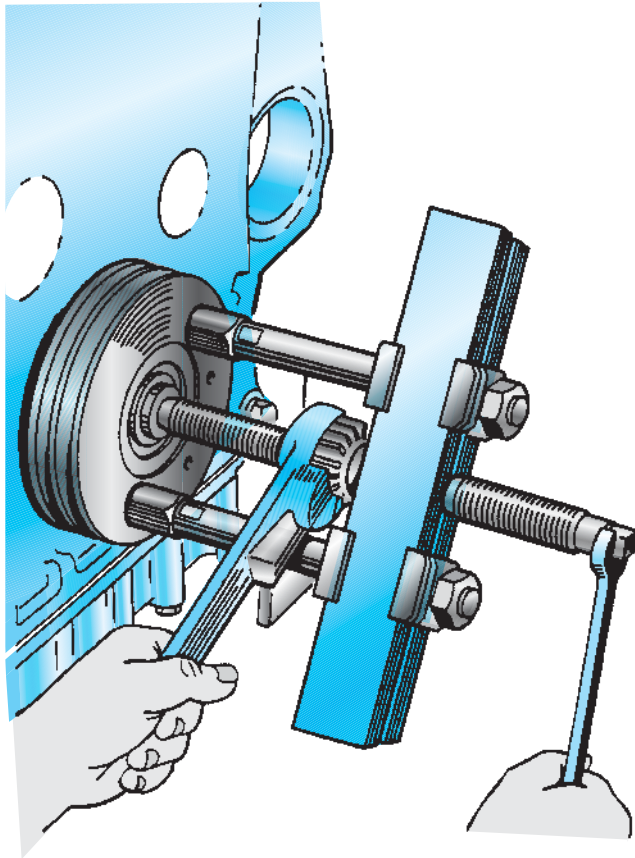

Figure 11-1 Removing a pulley using a T-puller. (Courtesy of Caterpillar)
4. Separate the vibration damper using great care, especially with viscous-type units. Inspect the vibration damper to assess whether it can be reused. Next, remove the crank pulley and crankshaft hub assembly. Usually this requires removing the hub retaining cap screw(s) and then using a universal T-puller (**Figure 11-1**).
11. Remove all accessory drive components not already removed, such as power steering pumps, air compressors, and so forth. Remove accessory drive pulleys using a suitable puller (**Figure 11-1**).